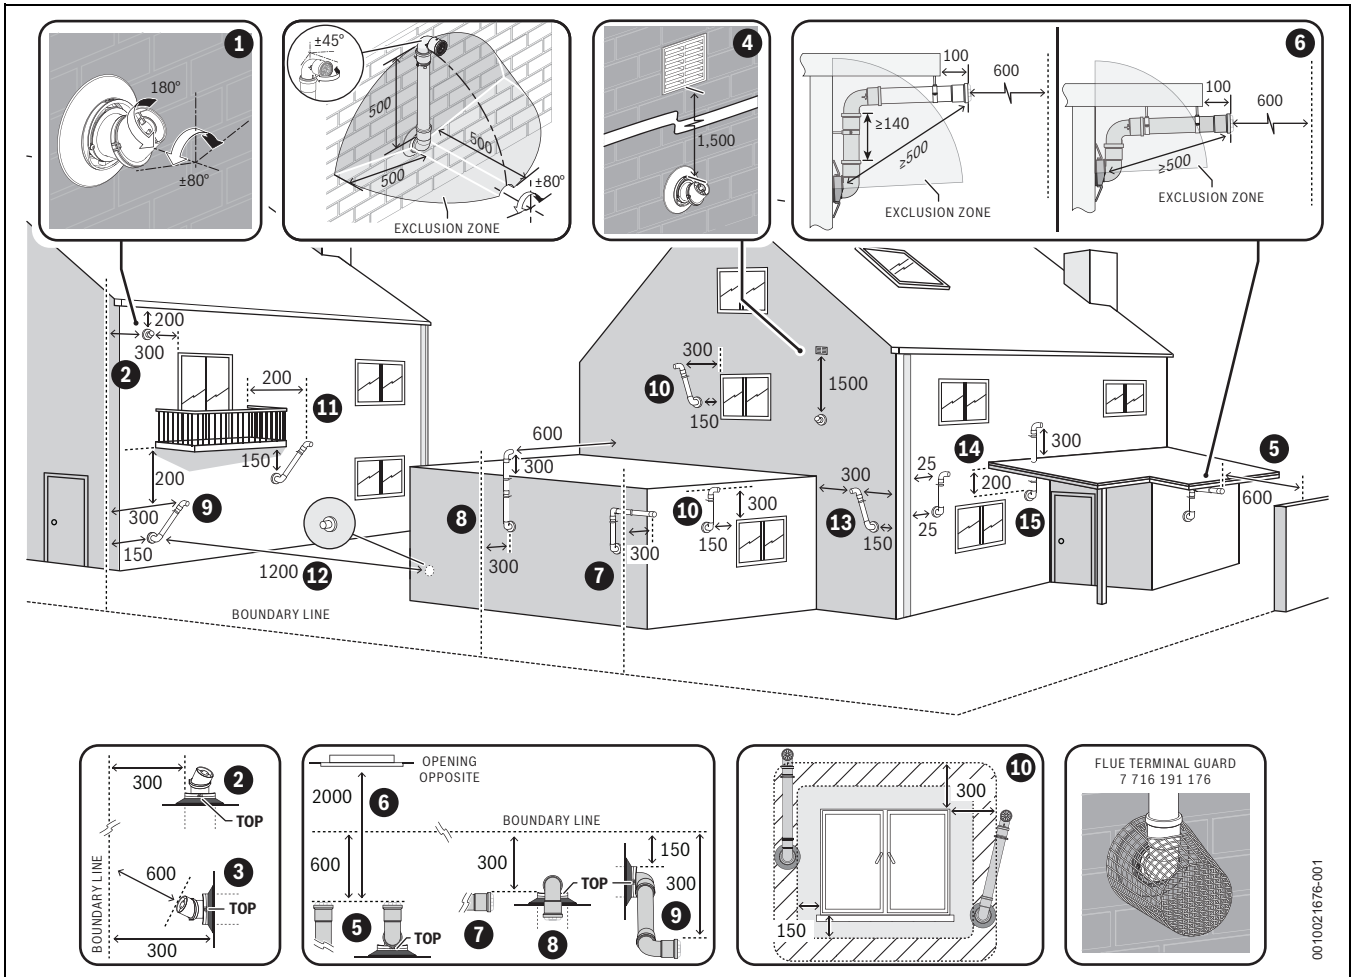

Fig. 39 Plume re-redirect and plume management terminal positions
- ▶ Refer to “Horizontal flue terminal positions” for all concentric flue terminal positions unless the flue position is specified in figure 39 “Plume re-redirect and plume management terminal positions”.
Key to figure 39 - Plume re-direct terminal positions:
Key to figure 39 - Plume management terminal positions: